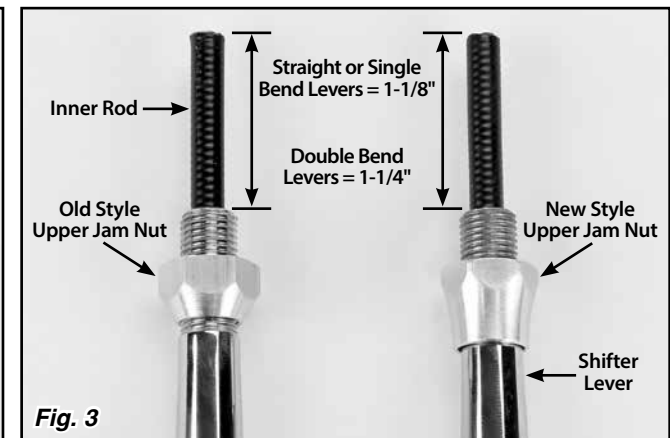

Fig. 3
Install the shifter boot and your original jam nut onto the new Shifter Lever. If you have the old style upper jam nut, leave one to three threads exposed below the jam nut. If you have the new style upper jam nut, thread the nut all the way down until it bottoms out. Then, thread the nut back up the Shifter Lever three to four turns. **Fig. 3**
Step 7: The inner rod will need to be cut to fit using heavy-duty 8" diagonal cutting pliers. With the shifter in "PARK", if you are installing a straight shifter lever or a single bend shifter lever, cut the inner rod 1-1/8" above the top end of the shifter lever. If you are installing a double bend shifter lever, cut the inner rod 1-1/4" above the top end of the shifter lever. **Fig. 3**